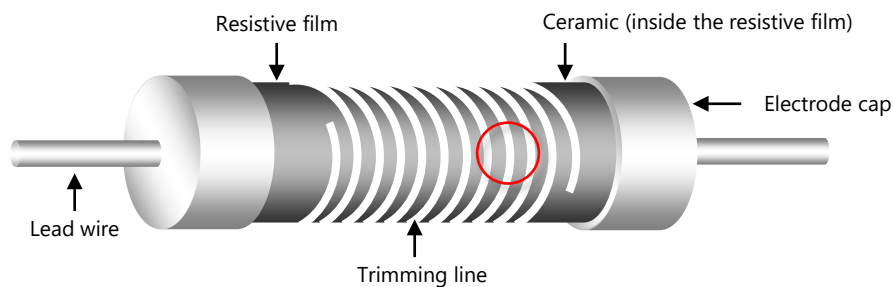
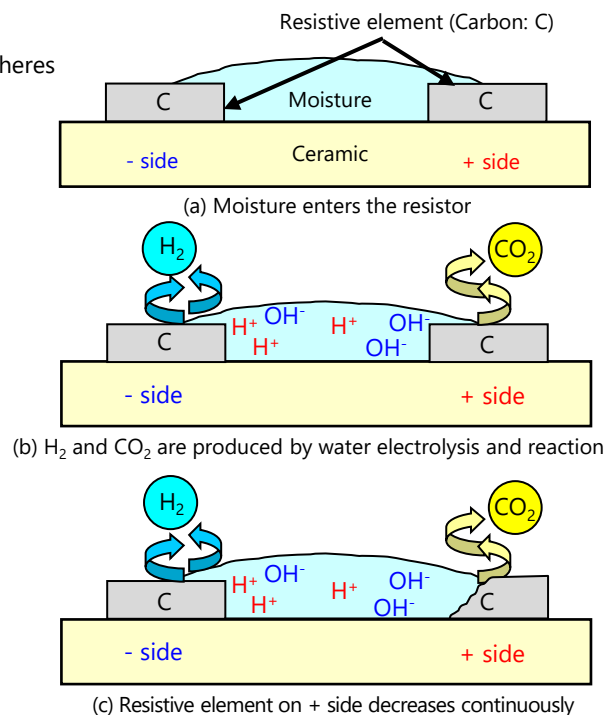

Figure 2 Structure of a carbon film resistor
Figure 3 Schematic diagram of electrolytic corrosion in a carbon film resistors
Figure 2 shows the structure of a carbon film resistor. In this diagram, the insulation coating on the surface is omitted to make it easier to see the interior.
Electrolytic corrosion occurs in the resistive film within the trimming lines. The process of electrolytic corrosion is described below. In addition, Figure 3 shows the cross section of the red circled area in Figure 2.
1. Due to damage to the insulation coating etc, moisture penetrates into the component and adheres between the resistive film spirals. (Figure 3(a)).
4. Hydrogen (H_2) is produced on the negative side (- side), while carbon dioxide (CO_2) is produced by reaction between carbon (C) in the resistor and oxygen (O) in the hydroxide ions (OH^-) on the positive side (+ side) (Figure 3(b)).
5. As this reaction proceeds, carbon in the resistive element on + side decreases over time, and eventually the resistive element material disappears (Figure 3(c)).